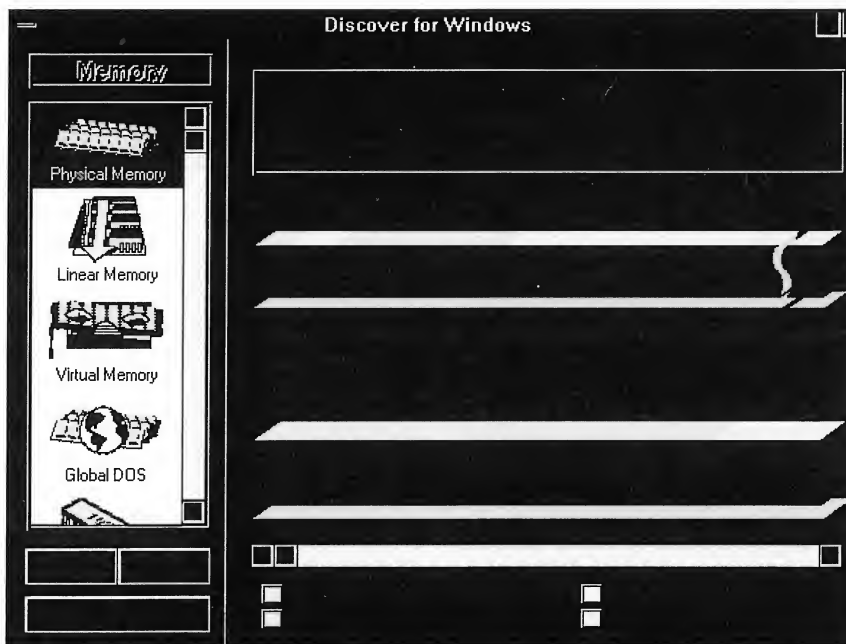

Fig. 3. Discover for Windows information about system memory use.
Should you need or want to find out in detail what's going on inside your system, the system-analysis tools of *Discover for Windows* provide detailed information about software, memory, system components, disk drives and I/O devices, as well as a series of benchmarks. Figure 3 shows a typical screen for information about system-memory use.
A. WinTune (Fig. 3) is quite correct in its interpretation of the problem. Windows uses fixed 64K blocks of memory below 1M to track Windows' resources. If even one of these blocks runs out of memory, though, you'll get this type of behavior. It's important to understand that, no matter how much RAM you add to your computer, these system-resource blocks don't grow in size. There are a couple things you can do to optimize your memory blocks.
Fig. 3. Windows' WinTune diagnostic program can ferret out hard-to-find memory problems, as well as rate performance of your system and its parts. You can download it from: <http://techweb.cmp.com/win/software/wintune/wt20.zip>.